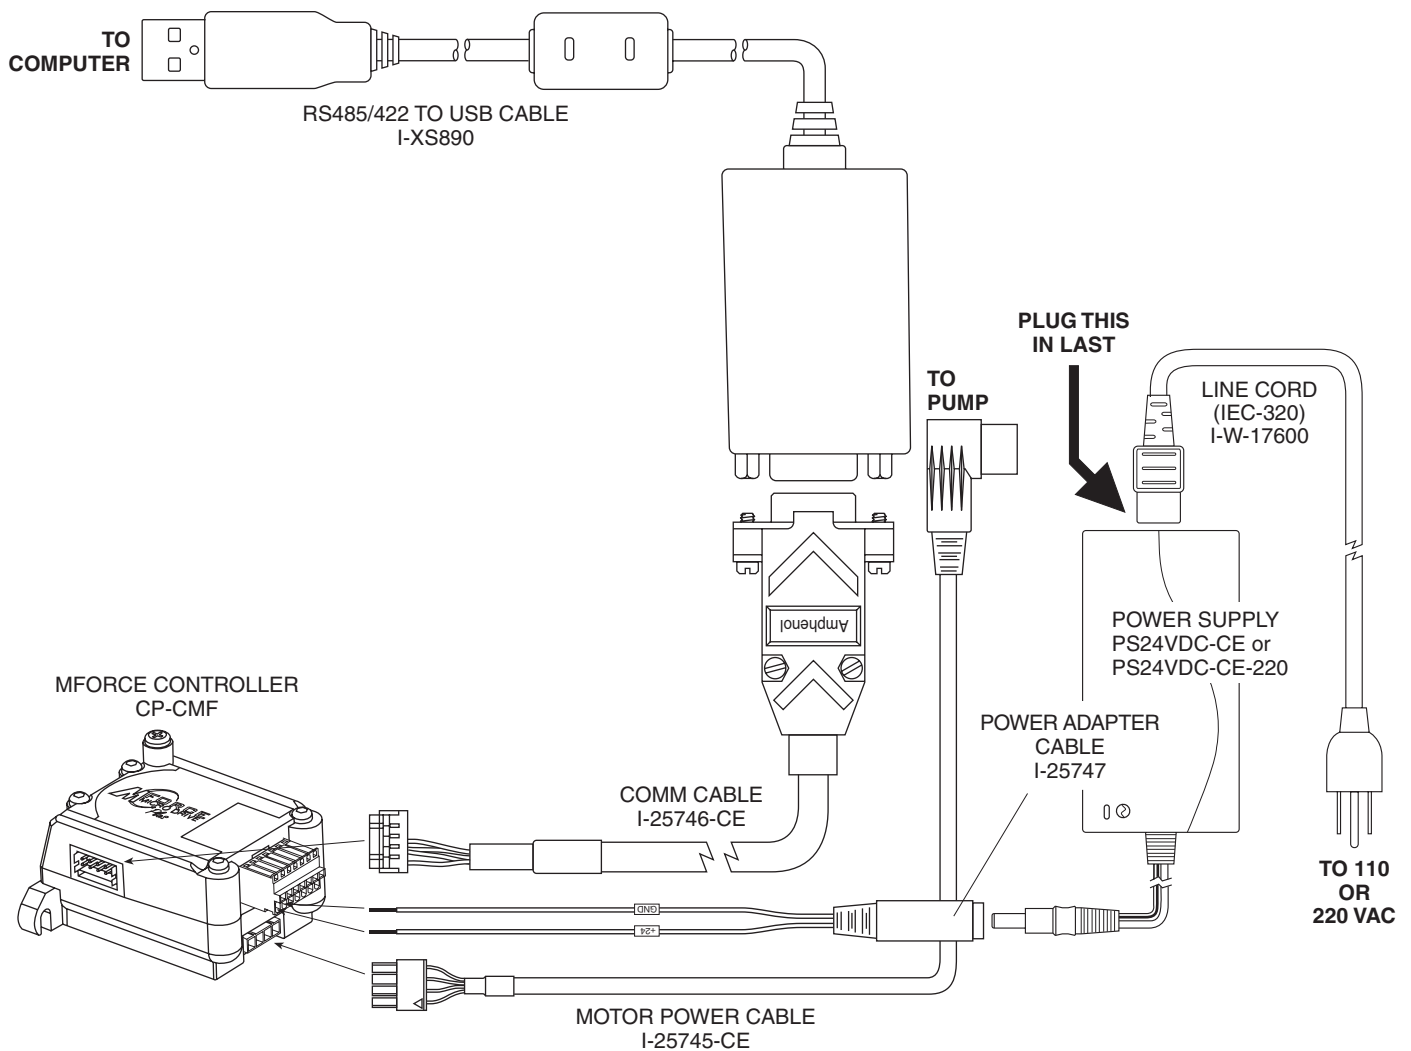

Figure 4: Cable connections
2. Connect the motor power cable (I-25745-CE) to the controller and pump as shown in **Figure 4**.